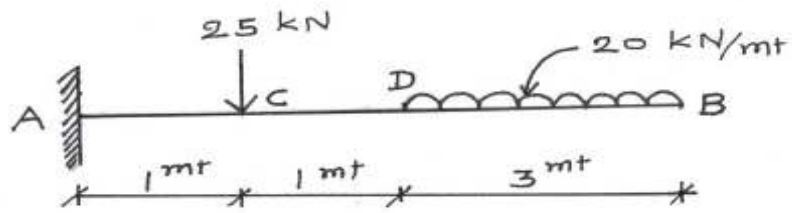

Fig. No. 2. Or Ques 2(b)
- (b) Draw S.F. and B.M. diagram for a beam shown in **Fig. No. 2.** **07**
(1) Long column (2) Short column (3) Crushing load (4) Buckling load